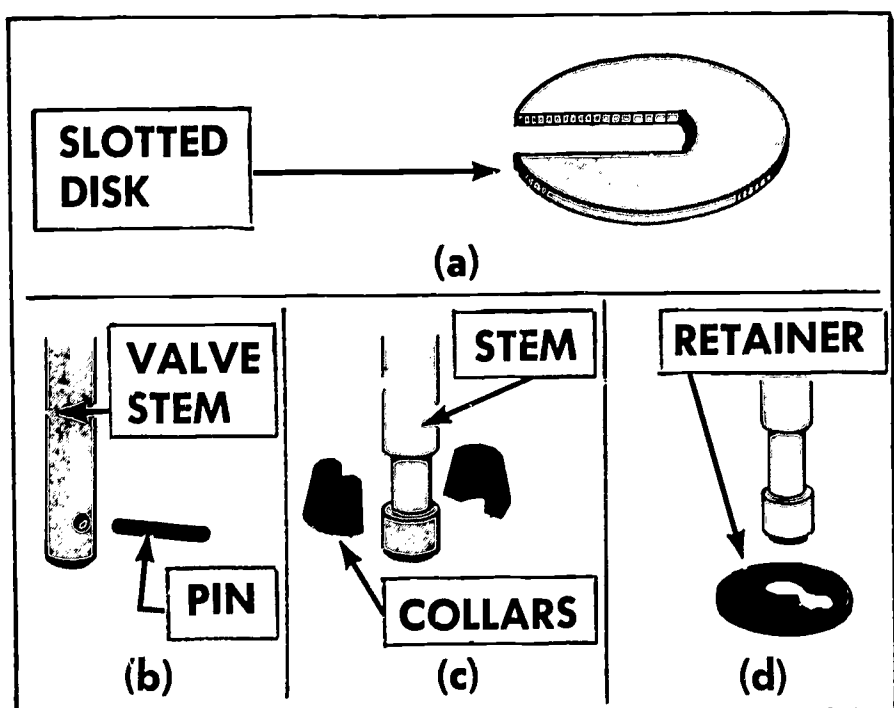

FIGURE 194. Types of valve spring retainer locks: (a) slotted disc, (b) pin, (c) split collar and (d) combination retainer and lock.
3. *Remove the valve-spring retainer and/or retainer lock (Figure 194).*